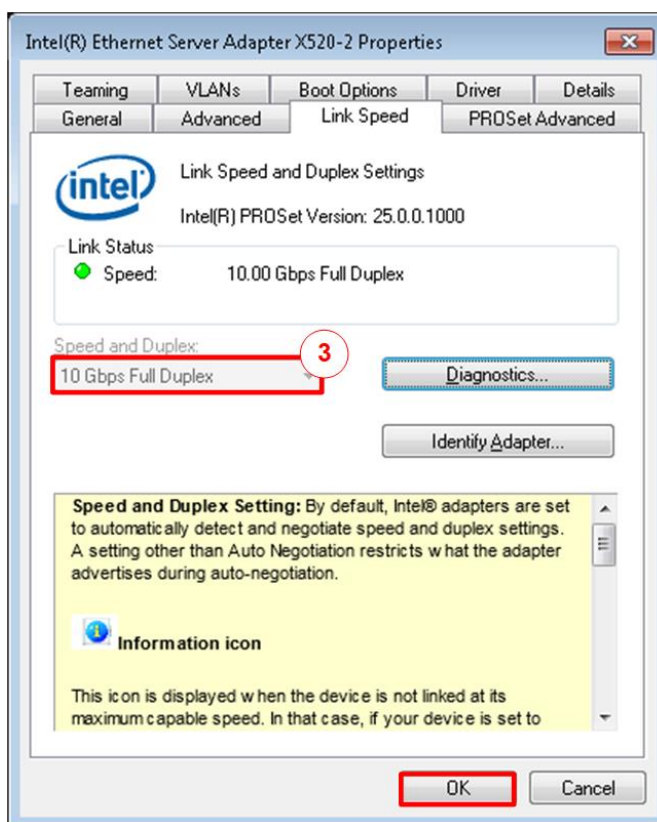

Figure 2-3 Set link speed = 10 Gbps
- 3) On Link Speed, select “10 Gbps Full Duplex” for running 10-Gigabit transfer test, as shown in Figure 2-3.